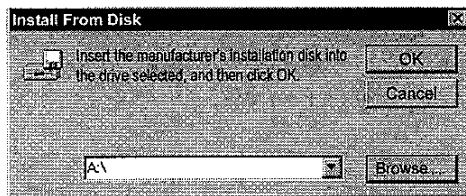

Figure 7. Install From Disk
- step4.** Insert the driver diskette into drive A: (or B:). Type A:\ (or B:\) and click **OK** (Figure 7)